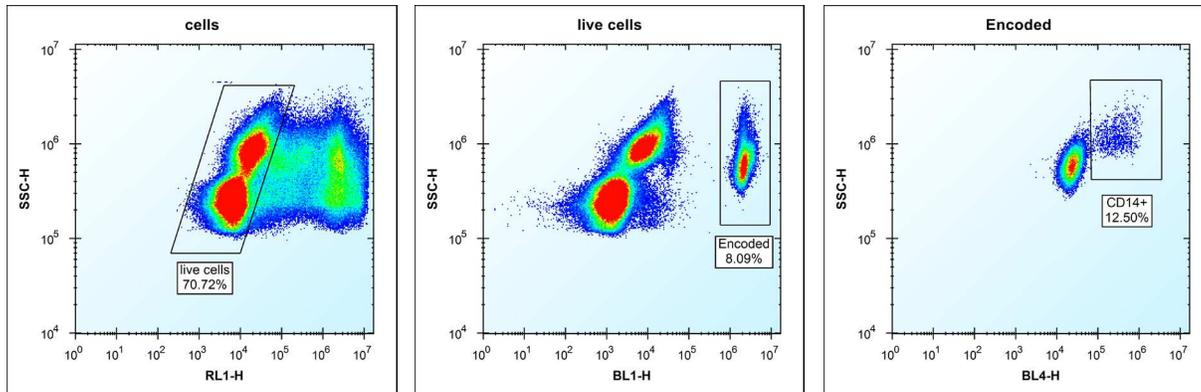

Figure 4: iQue® Human ADCP Kit gating for B/Green encoded Ramos cells with PBMCs.
- 6.7 Use template to gate Cells  $\rightarrow$  Live Cells  $\rightarrow$  Encoded  $\rightarrow$  CD14+ (see Figure 4).